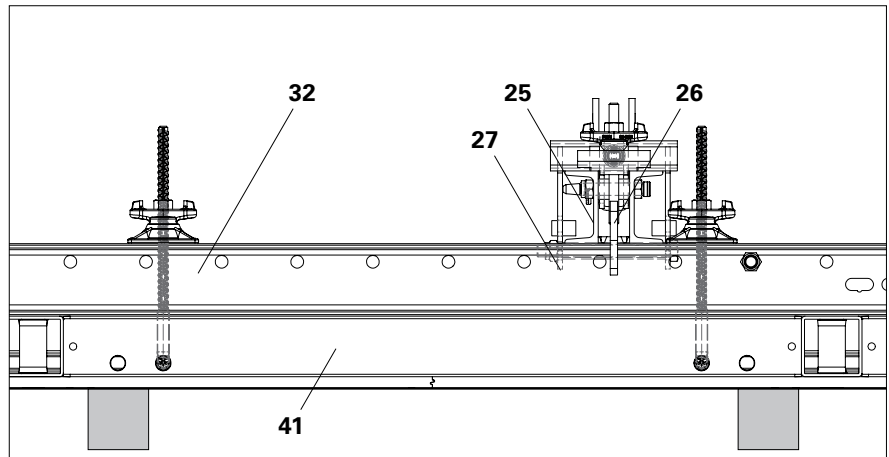
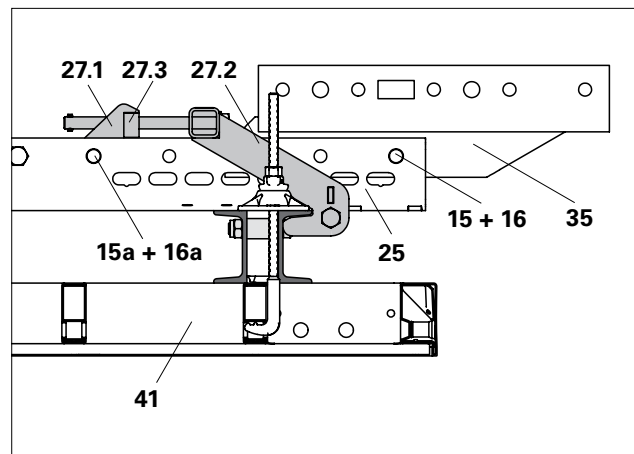

Fig. C1.01b
Fig. C1.01d
2. Position the Strongback SRU (25) on the waling (32) according to the planning.
3. Clamp the Strongback to the waling at the top (32) using the Waler Fixation SRU (26).
- (Fig. C1.01b + C1.01c)
5. If the Crossbeam Head RCS/VARIO is used: mount the Strongback Adapter (35) to the Strongback using fitting pins Ø 21 (15) and cotter pins 4/1 (16).
- (Fig. C1.01d)